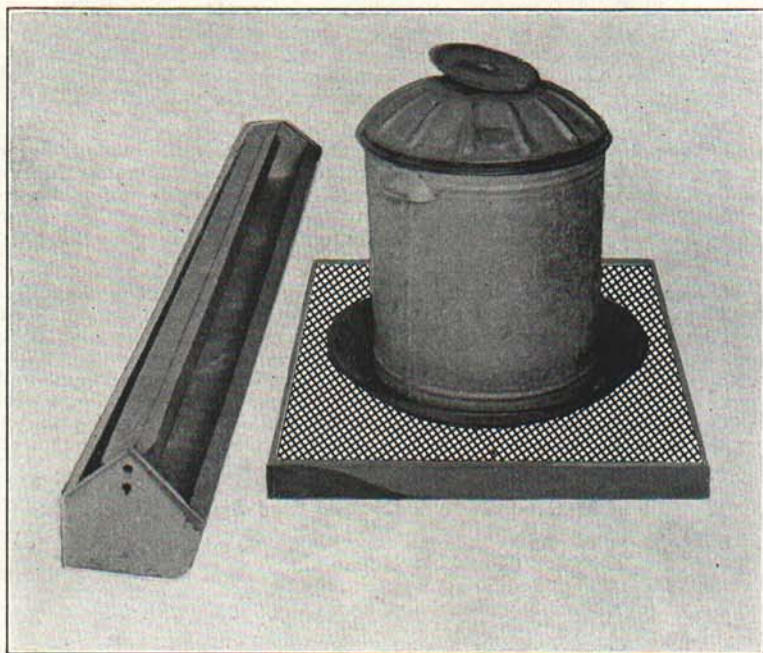

Fig. 5.—Acceptable types of feeding equipment for baby chicks.
**Feeding Equipment**—There are various types of feeding equipment on the market that give satisfactory results. In buying equipment, select items that are well made and of reasonably heavy material. Feed hoppers that do not waste feed are easy to clean and allow chicks free access to feed are preferable. Water fountains of three to five gallon capacity are much better than smaller types. Fig. 5 shows acceptable feeding equipment for baby chicks.